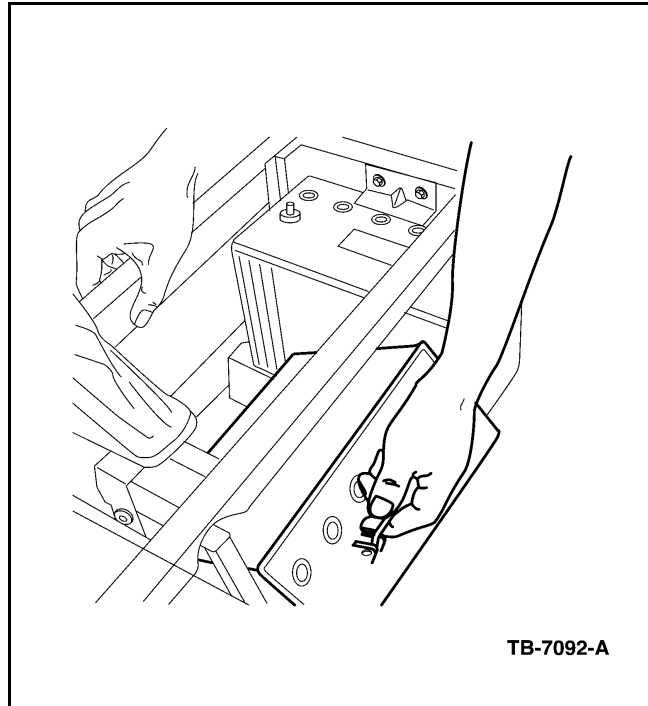

Figure 1 - Article 03-19-7
7. Remove batteries as seen in (Figure 1).